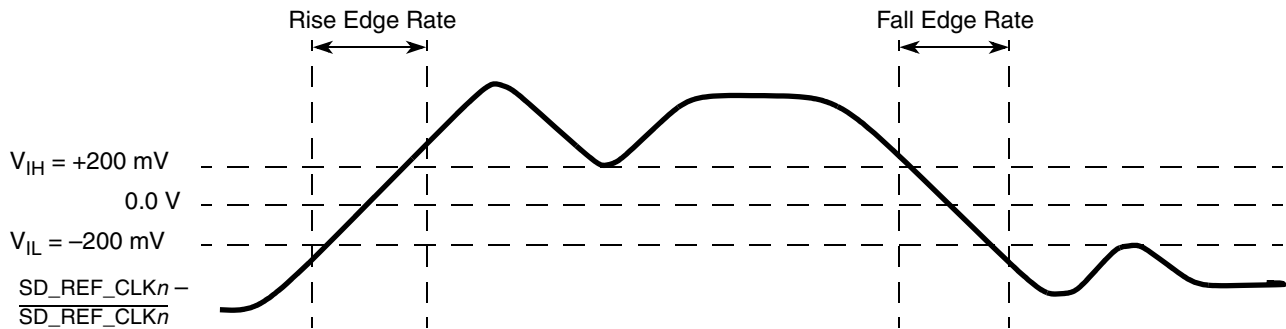

Figure 40. Differential measurement points for rise and fall time
waveform is not referenced to ground. See Figure 40, “Differential measurement points for rise and fall time,” as an example for differential waveform.
- Measured from -200 mV to +200 mV on the differential waveform (derived from SD_REF_CLKn minus $\overline{\text{SD_REF_CLKn}}$). The signal must be monotonic through the measurement region for rise and fall time. The 400 mV measurement window is centered on the differential zero crossing. See Figure 40.